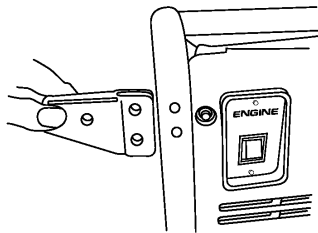

FIGURE 9: Handle Bracket to Frame
1. Hold handle bracket over pre-drilled holes on frame as shown in Figure 9.